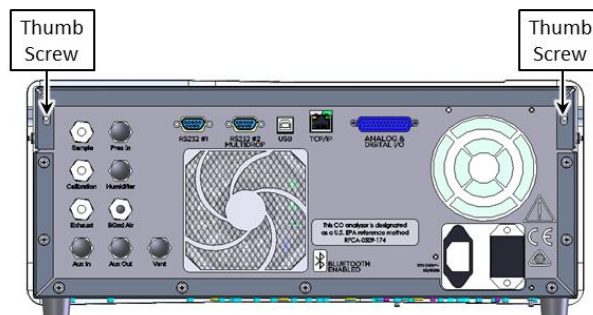

Figure 19 – Opening the Instrument – 1
1. Refer to Figure 19. Remove the thumb screws located on the rear panel.